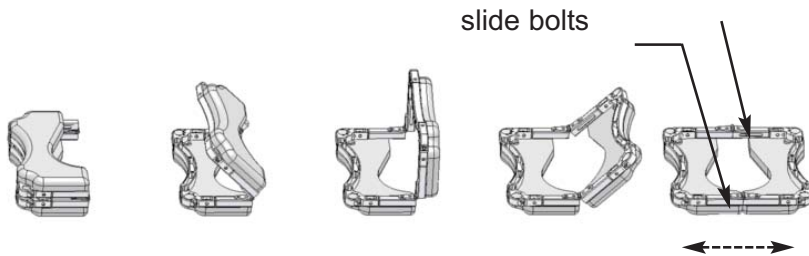

Figure 2
**C** Open the seat frame, lock the slide bolts, and position the frame upside down (Refer to Figures 2 & 3).